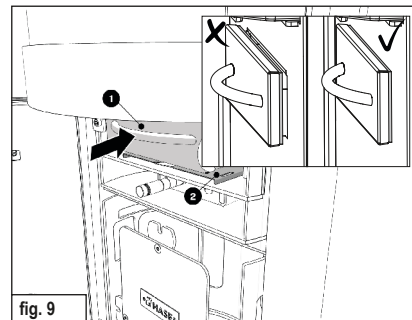

fig. 9
- ▶ Put the cover (2) back in place (fig. 9).
- ✓ Slide the ash drawer (1) back into the opening so it is flush with the seal (fig. 9).